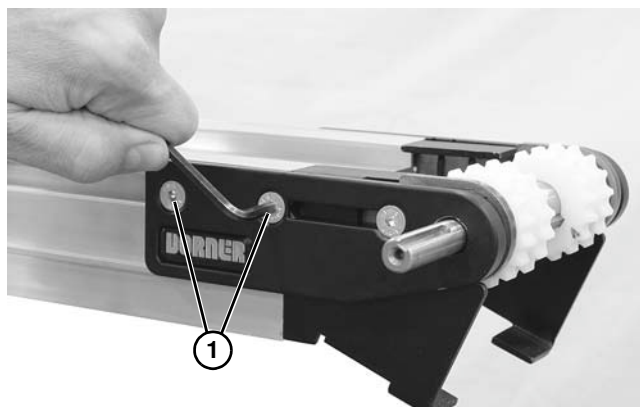

Figure 49
4. Loosen two fastening screws (**Figure 49, item 1**) on both sides of conveyor.